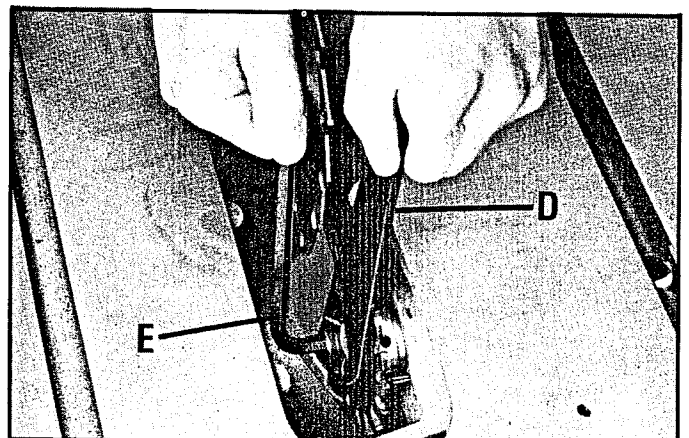

Fig. 12
3. Tighten scoring arbor nut with wrench (D) while holding arbor with allen wrench (E) inserted into end of arbor, as shown in Fig. 12.